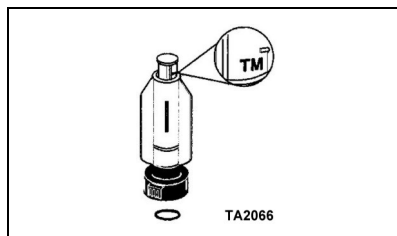

Fig. 2
2. Connect the airline to the CEJN coupling on **T/A/LINE** and fit the flow-test indicator to the quick-fit connector on the filter outlet. Check that the float rises so that the 'TM' line is visible (see Fig. 2).